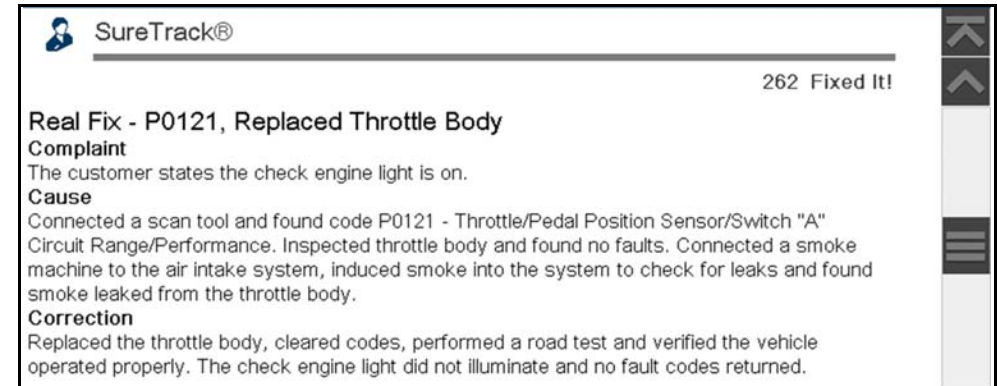

Figure 5-10
1. Scroll down to the SureTrack header (Figure 5-10) to view the most common Real Fix for code P0121.